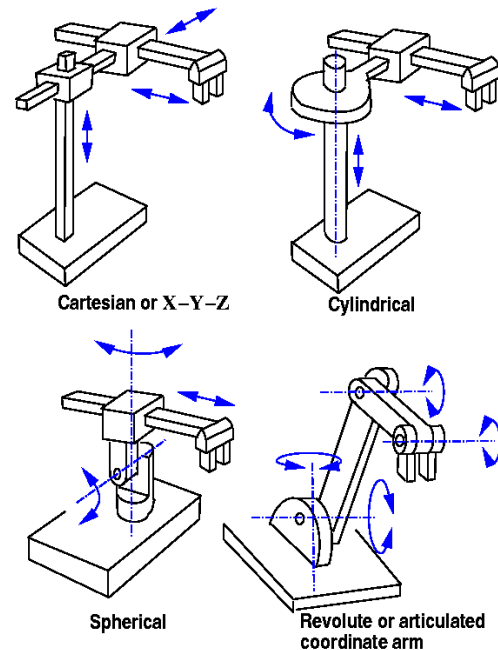

Figure 1: Four Basic Motion of a Robot Arm
Robotic arm comes in many movements. They are defined by the *coordinate* system. For example, the human arm is said to have *revolute* coordinates. The figure on the right (*Figure 1*) describes the four (4) basic robotic arm motions.